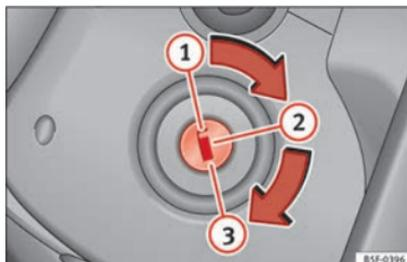

Fig. 198 Vehicle key positions
Vehicle keys » Fig. 198
3.	Only in vehicles with diesel engines: for preheating, turn the key in the ignition lock to position » Fig. 198  . A control lamp lights up on the dash panel  .